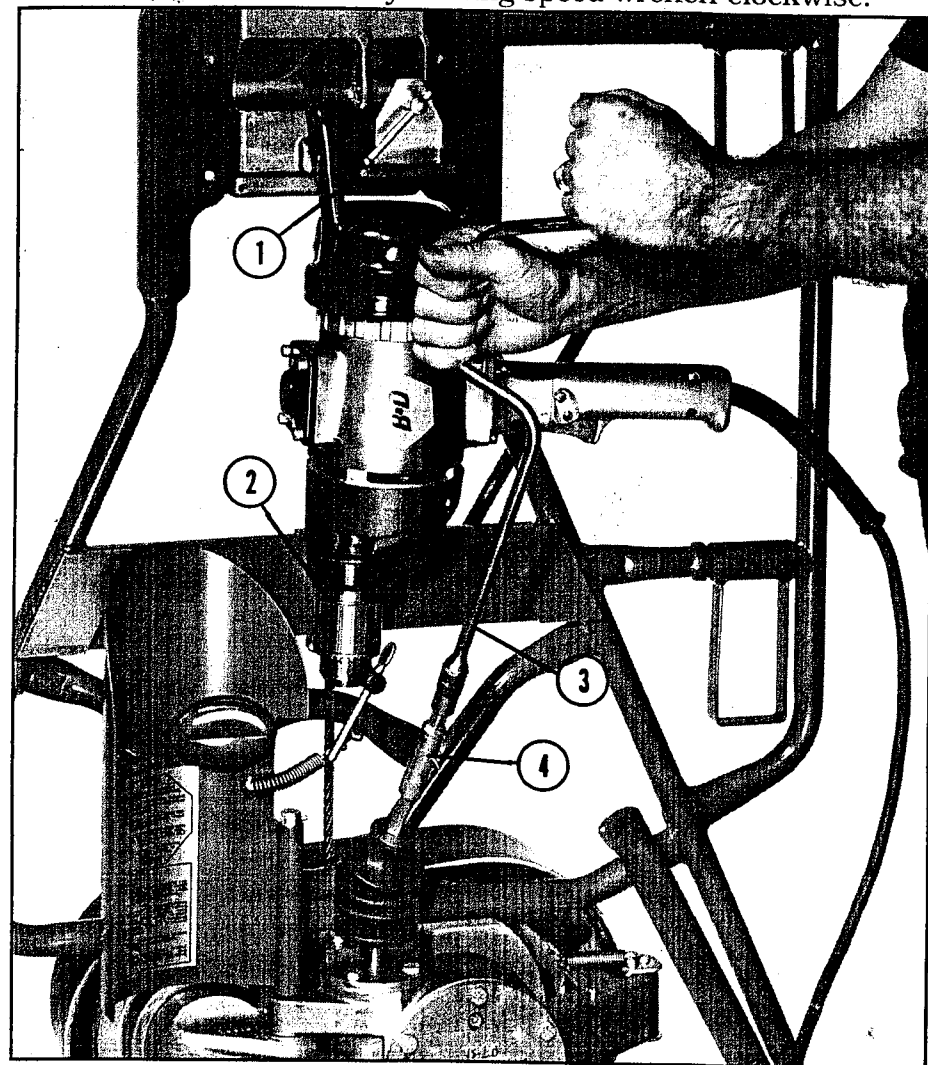

Fig. 14
- a. Remove lock pin (A).
- b. Lift pulley (B) to insert wire rope underneath.
- d. Insert wire rope over pulleys (C) and (D).
- e. Attach stirrup frame to work cage by inserting lock pin (F) in brackets (E).
- f. Install "T" clamp (H) through top of frame, then thread into lug (G) on cage boom.
- g. Mounting motor—be sure motor handle clamp [See Fig. 14] and motor chuck are securely tightened. Fully extend shear pin shaft up into motor chuck before tightening. [See Fig. 8.]
- Release the motor handle clamp (1) [See Fig. 14] and loosen drill chuck (2) to remove motor.
- Insert speed wrench (3) provided with the unit into the hex shaft (4). Lower unit by turning speed wrench clockwise.